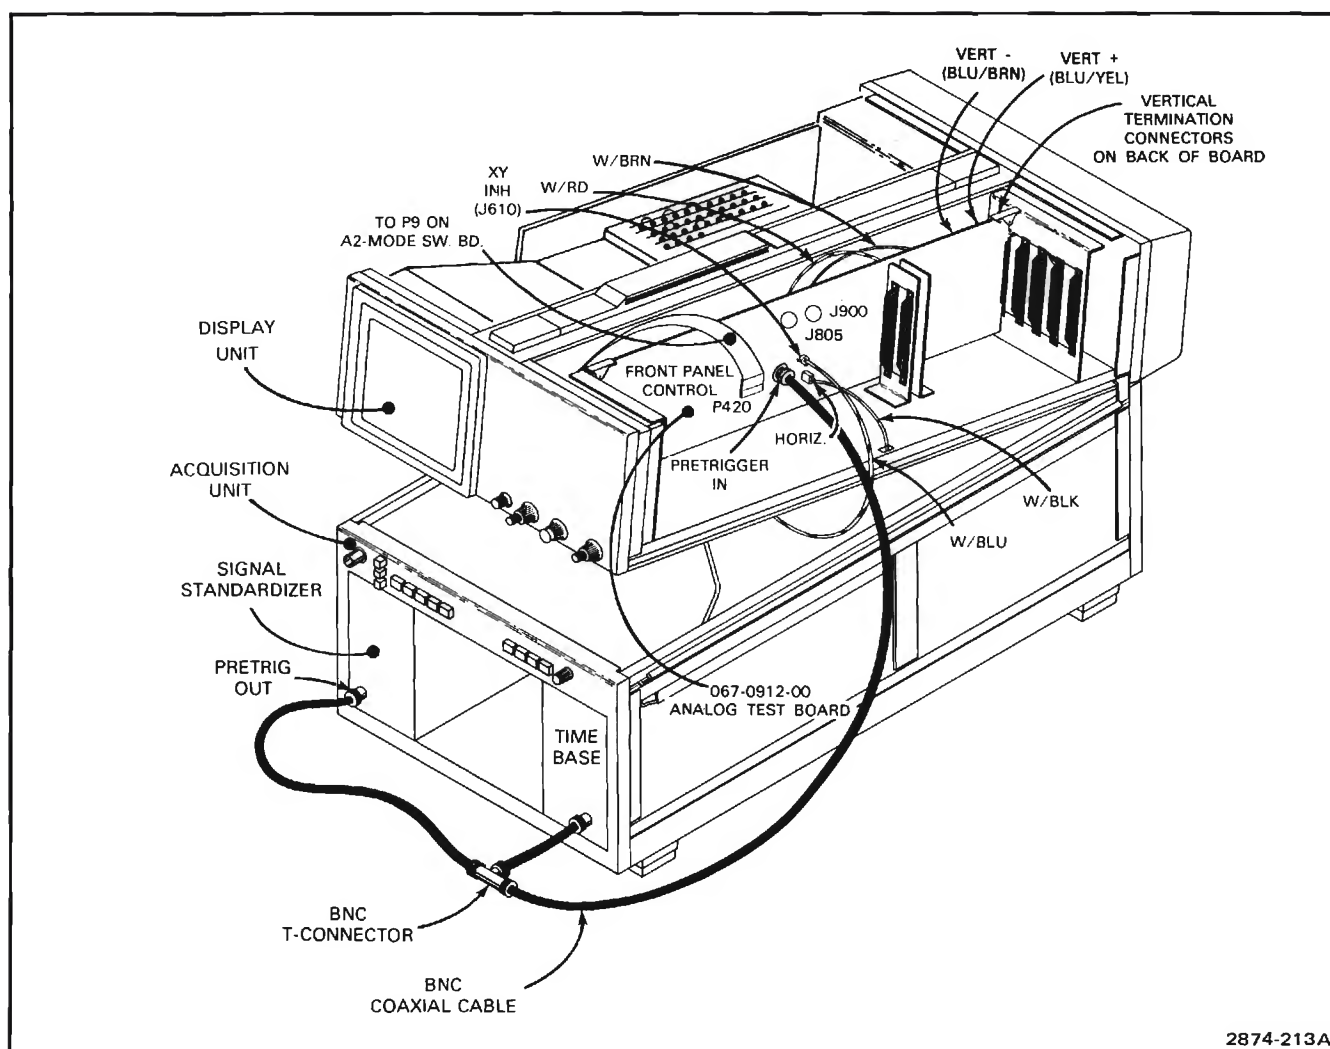

Figure 3-4. Analog Test Board (067-0912-00) interconnections.
The Analog Test Board plugs into the A29-Display board slots, P109 and P110, of the 7854 digital backplane. The ten-conductor ribbon cable connects to P9 of the A2-Mode Switch board. See Figure 3-4.
g. Connect the cables as indicated in Figure 3-4.